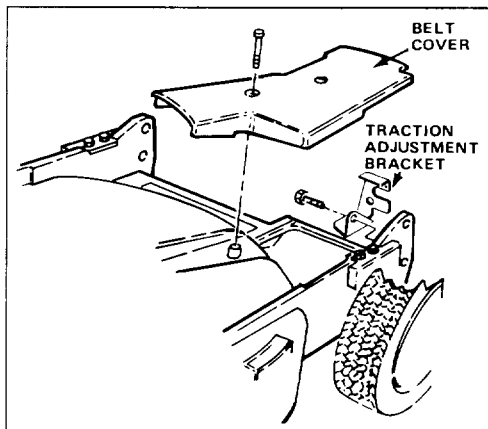

Figure 1
1. Remove (2) screws securing belt cover to housing and remove cover (Fig. 1).
2. Remove screw securing traction adjustment bracket to housing and move bracket to side (Fig. 1).